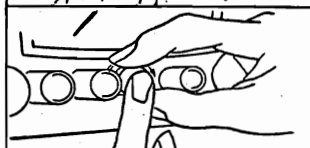

FIG. 4 Press button in firmly while tightening it with other hand.
3. Hold button in with finger of one hand and tighten securely with the other hand. Release the button and tighten it further if possible. See Fig. 4.